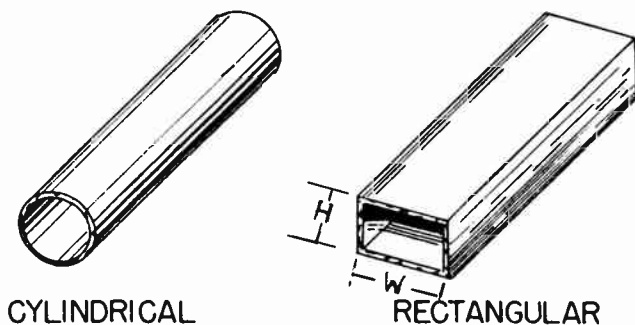

FIG. 19-5. BASIC SHAPE OF WAVEGUIDES.
**WAVE GUIDES.** A waveguide is a transmission line that conducts high frequency energy from one point to another in much the same manner as a transmission line. A waveguide consists of a rectangular or circular conducting tube through which the energy is transmitted in the form of electromagnetic waves. See Fig. 19-5. These waves are both electric and magnetic, and they are propagated through the waveguide tubes by reflections against the inner walls. Skin effect prevents the electromagnetic energy from escaping through the metal walls.
The cross-sectional size of a waveguide is directly proportional to the wavelength of the energy that it is to conduct. The higher the frequency, the lower is the wavelength and the smaller is the cross-sectional size of the waveguide. The width of a rectangular waveguide (“W” in Fig. 19-5), must be more than  $1/2$  of the wavelength of the lowest frequency to be conducted. In practice, it is between  $.7$  and  $.8$  of the wavelength of the lowest frequency to be conducted. The height of the rectangular waveguide (“H” in Fig. 19-5), is usually about  $1/2$  of the width. In a circular waveguide, the radius must be more than  $1/3$  of the wavelength of the lowest frequency to be transmitted. The reason that waveguides cannot be used at lower frequencies (higher wavelengths) is obvious. The size would be prohibitive.